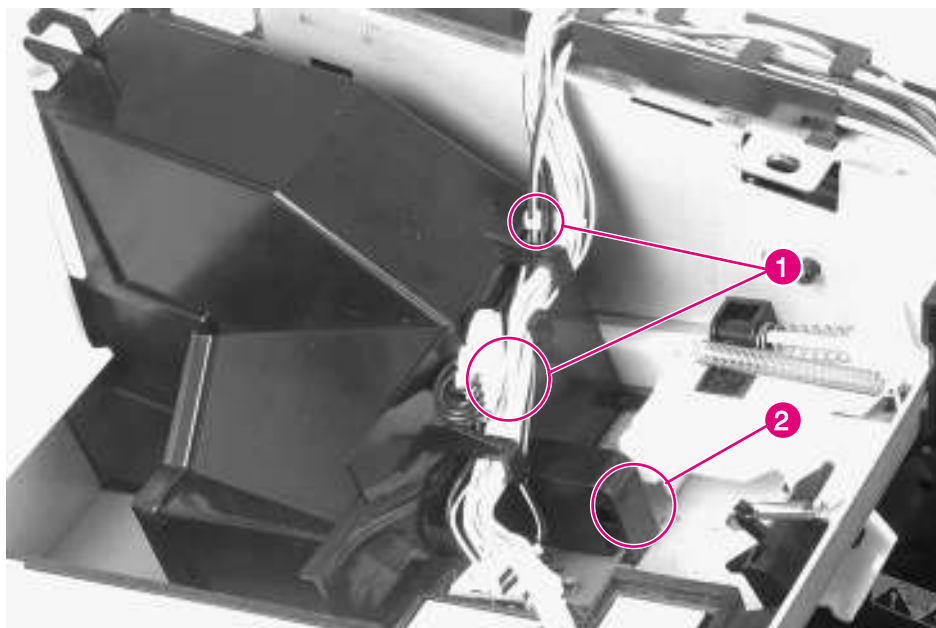

Figure 6-19 Fan 1, Laser/Scanner (1 of 2)
- 3 Remove and re-route the cables away from fan housing (figure 6-19, callout 1).
- 4 Release the housing retainer clip located inside the toner cartridge cavity (figure 6-19, callout 2), and lift the housing up and out of the chassis.